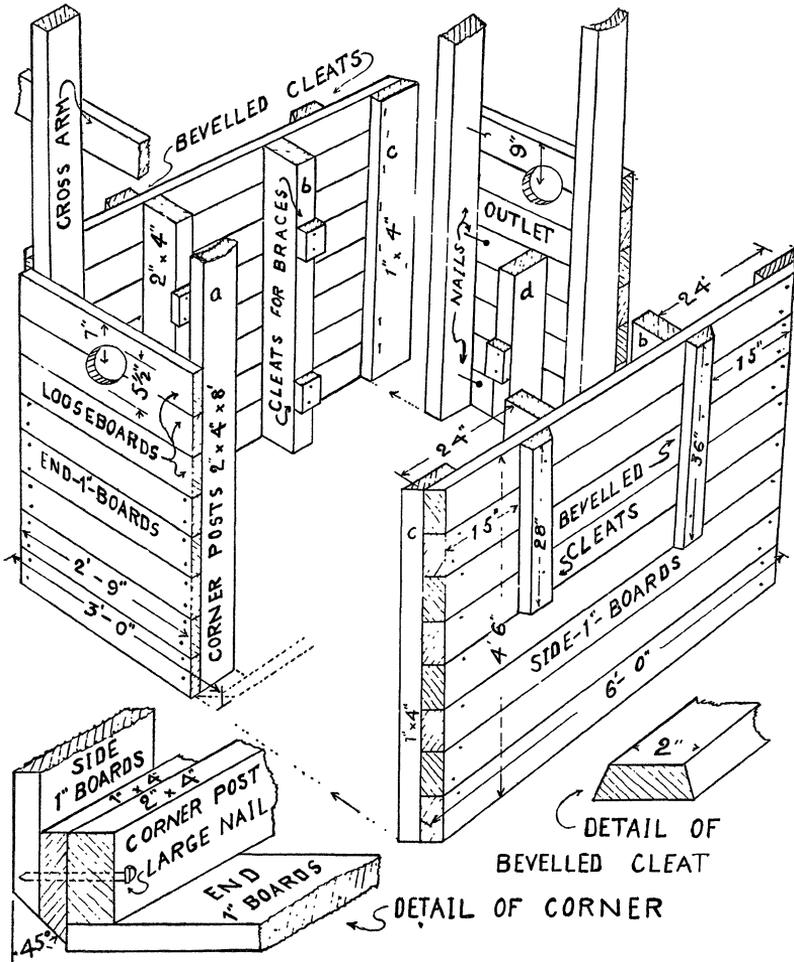

Fig. 2.—Perspective drawing showing how the form is made. The dimensions on this drawing are for a tank the proper capacity for six persons.
Figs. 2 and 5 show how the form is made. The following bill of material is needed for a tank six feet long, three feet wide, and four and a half feet deep. This is the proper size tank for a family of six or less persons. (See table of tank sizes.)
- 2 pieces of 2"x4"—10' long—For the four side brace supports (b, Fig. 2).
- 1 piece of 2"x4"—10' long—For the two end brace supports (d, Fig. 2 and the long brace, Fig. 5).
- 2 pieces of 1"x4"—10' long—For the four end pieces (c, Fig. 2) to nail sides to.
Making the Sides. Shiplap or matched boards are excellent for this purpose but any width one-inch boards are satisfactory. The total height of the side is about four and a half feet, but if it happens to be a little more than four and a half feet when using a certain number of boards, just leave it, rather than rip a board to make it exact. These boards are cut six feet long with bevelled ends, the length measured on the long side. They are nailed at each end to a 1"x4" board (c, Fig. 2) which is also bevelled by use of an axe or drawknife. When the bevelled edges are placed as shown in Fig. 2 they form a bevelled end that can be easily removed from the concrete. This bevel is about 45 degrees. It is easier to saw the bevelled
ends when sawing the boards than to saw the bevel after the side is nailed together. Two pieces of 2"x4" (b, Fig. 2) are nailed across the side, 24 inches from the ends, for the braces to fit against, to give stiffness to the side. On the outside of each side two bevelled cleats are nailed, one near the inlet to be 28 inches long and the other near the outlet to be 36 inches long.
They are 15 inches from the ends (Fig. 2). They are made by ripping the 1"x6" board in the middle and then bevelling the edges with an axe or drawknife. When the form is taken out after the concrete has hardened these cleats pull out leaving notches in the wall to hold the baffle boards in place. The six-penny common nails come through the 1"x4" end-board and should be cleated. Cleat them with the grain of the wood and be sure they are completely imbedded because the surface must be smooth so that the corner 2"x4" will slip on them when removed after the concrete has been placed.
Making the End. The ends are made by sawing one-inch lumber two feet nine inches long and nailing on the edges of the 2"x4" corner posts (Fig. 2). They should be just flush with the 2"x4" so that it will slip past the side when removing. Be careful to nail the boards on so that the ends form a rectangle. The hole for the inlet pipe is five and a half inches in diameter and is located midway between the two corner posts. The center of this hole is seven inches from the top edge of the end. The outlet hole is also five and a half inches in diameter but is located nine inches below the top edge, making the outlet two inches lower than the inlet. These holes may be made with a keyhole saw or they may be made by sawing several notches and splitting out. They do not need to be smooth and true.
The form when first made is in four pieces, the two ends and the two sides. It is put together by setting up a side and end and driving three 16-penny common nails from the inside into the 2"x4" corner post, one near the top, one near the bottom and one near the middle. *They should not be driven completely in.* However, the side should be driven tight against the corner post by holding a heavy hammer or rock against it. Leave them so that a claw hammer or nail puller can get hold of the head. If they are driven completely in it will be impossible to take the form out without splitting the corner posts. (See Figs. 2, 3 and 5.)
Fig. 3.—This drawing shows the form set in the hole ready for the concrete. The bricks under the corners should be removed before putting in the concrete. The top three end boards are not nailed. (See Fig. 2.)